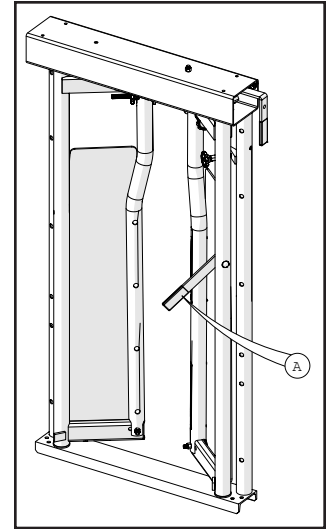

Figure 6: Loading handle
2. For slow or timid animals, the headgate features a handle (a) that can be mounted on the left or right side of the machine (Figure 6). If the animal puts its head through the headgate but does not go far enough for the doors to close, the handle can be pulled to manually close and lock the doors in place.